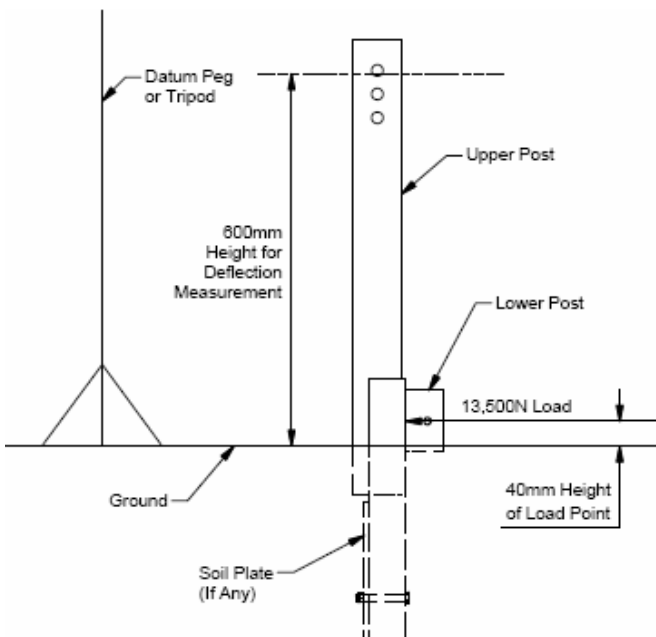

Figure 2
3. A 13,500 N horizontal load shall be applied to the lower post as detailed in Figure 2 by means of a hydraulic ram with a calibrated load cell. The load is to be applied to the lower post in the area where the bolt fastens the upper and lower posts together. [Refer to Figures 2 and 3]
5. A datum peg is to be driven into the ground in line with the post and the center line of the hydraulic ram with a height approximately equal to that of the test post (a simple tripod can be constructed for this purpose). [Refer to Figure 2]
6. The load of 13,500 N is to be applied and the deflection of the post in reference to the datum peg is to be measured (when the load is applied) and recorded within ± 1 mm. The deflection of the post should be measured 600 mm above the ground level. [Refer to Figure 2]
7. If the measured deflection does not exceed 50 mm (see Figure 2), the installation with the modified (or removed) soil plate is considered acceptable.